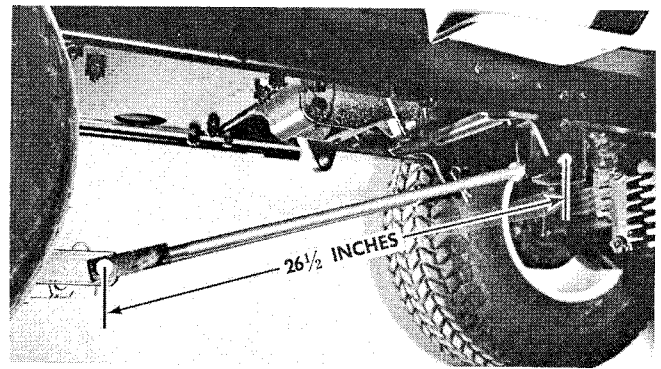

FIGURE 6
4. Place hex jam nut 5/8-11 onto one end of each push rod. Install clevis onto each end of push rods. Secure one clevis with jam nut and adjust other clevis so there is 26-1/2 inches between centers of clevis pin holes. See figure 6.
5. Install one end of push rod assembly onto rear of push arm assembly. Secure with clevis pin 5/8 x 1-9/16 and spring cotter. Install other end onto tractor lift arm and secure with clevis pin 5/8 x 1-9/16 and spring cotter. See figure 6. Adjust second push arm assembly so attachment lifts evenly. Secure with clevis pins 5/8 x 1-9/16 and spring cotters.